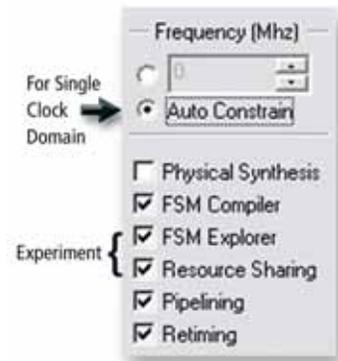

Figure 2 – Recommended Synplify Pro settings
- Explore the synthesis tool settings. (See Figure 2 for Synplify Pro and Figure 3 for Xilinx Synthesis Technology [XST] suggested tool settings.) There are also a variety of attributes that can affect synthesis optimizations. These attributes are an easy way to affect synthesis without having to re-code (see Table 1).